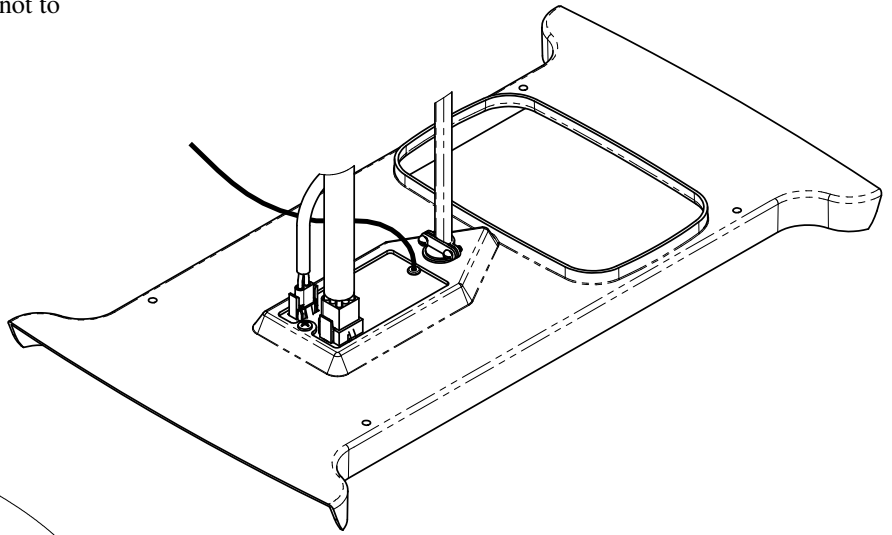

FIGURE 10
- C. Raise the ceiling assembly chute and insert the the supply wiring through the cable clamp and into the wiring box so that 4-6" of supply conductor is inside the box. Secure the cable clamp over the supply wire sheath so that no movement is possible (See Figure 10).
- F. Plug the air conditioner electrical conduit into the 9 position receptacle as shown in Figure 10.
- G. If the optional heater accessory package is being installed, remove the cover from the 2 position receptacle and plug the heater cord into receptacle as shown in Figure 10.